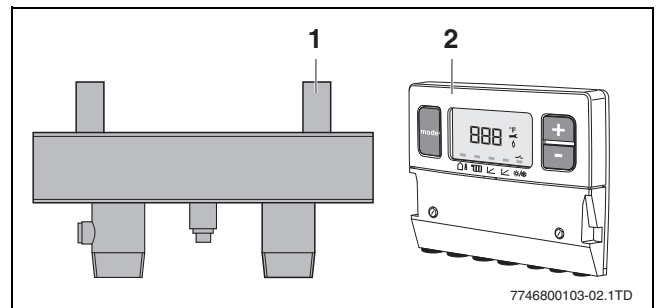

Fig. 5 Additional accessories
- ▶ Check that all items are included in the delivery (→ fig. 5).